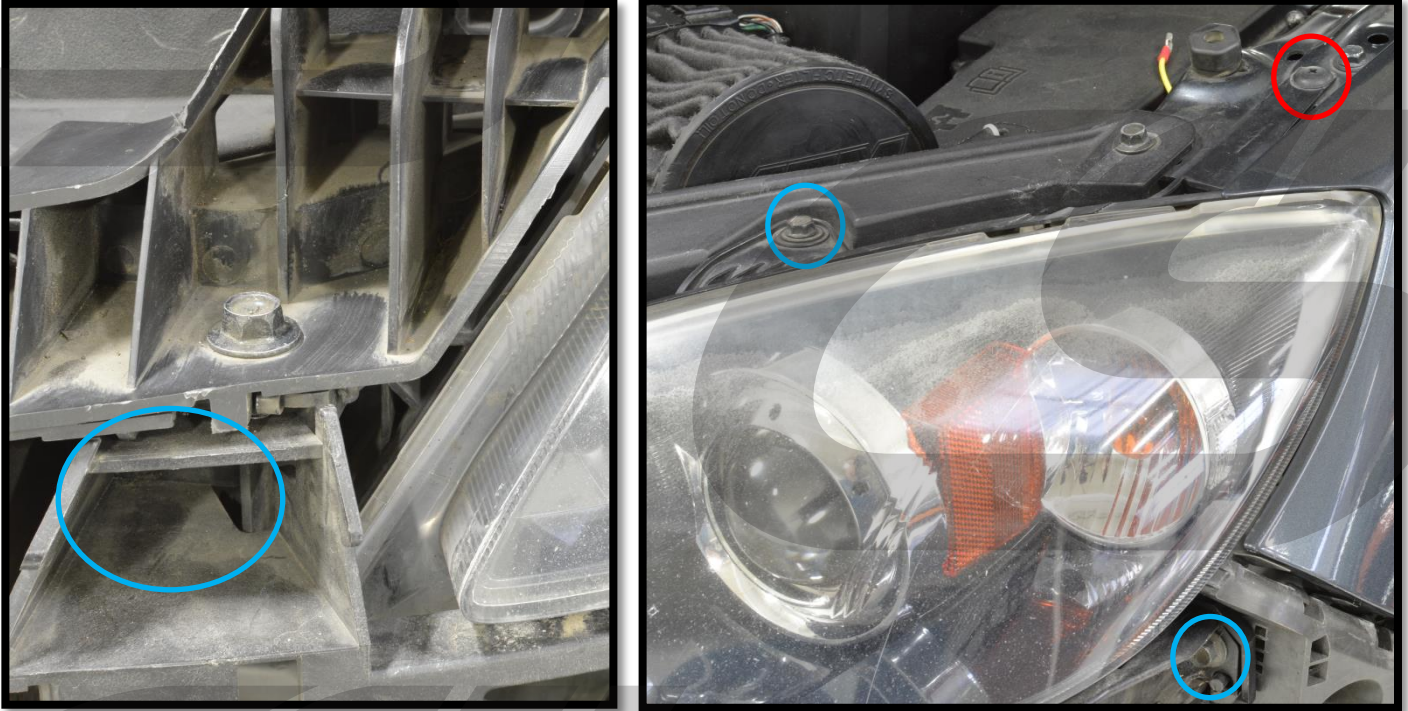

Figure 3a
- a) Remove one (1) phillips head push clip from the headlight. Shown circled in red in Figure 3a.
- b) Remove three (3) 10mm bolts from the headlight. Shown circled in blue in Figure 3a.